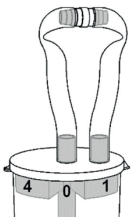

Abb. 4
- Connect both hose ends firmly with the hose connector. The suction polyp trap is thus sealed (Fig. 4).